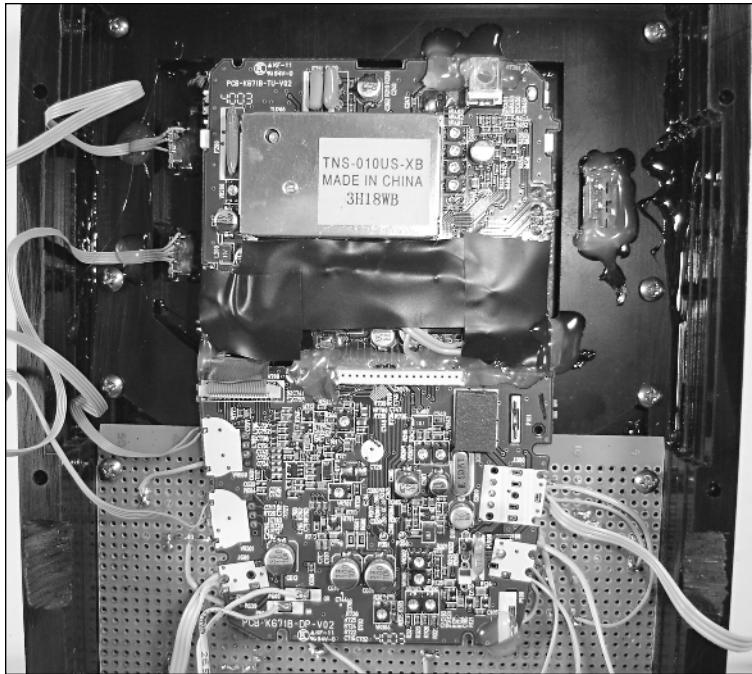

FIGURE 8-34: The TV screen installed in the front of the NES case.
4. You can now install the TV itself. Place it into the front of the case as shown in Figure 8-34. There are a couple of screw holes that we drilled in the control board that you can use to install the screen, or you can just use hot glue on the top, sides, and bottom of the TV's main circuit board. Check the unit from the front and make sure the screen portion is centered in the opening of the screen plate. No metal edges should be showing.